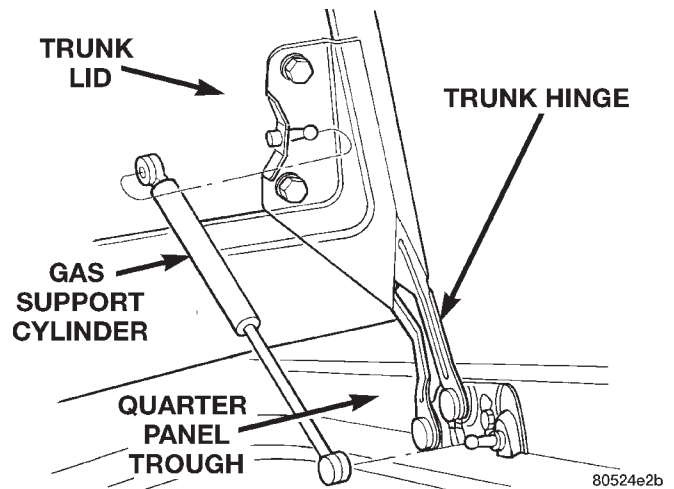

Fig. 60 Decklid Hinge And Gas Support Cylinder
- (1) Release decklid latch and open decklid.
- (2) Mark outline of hinge on decklid to aid in installation (Fig. 60).
- (3) Disconnect all wire connectors from decklid latch and disconnect wire harness from decklid.
- (4) Place suitable padding between decklid and deck panel to protect paint finish.
- (5) With aid of a helper, remove bolts attaching decklid to decklid hinge.
- (6) Remove decklid from vehicle.